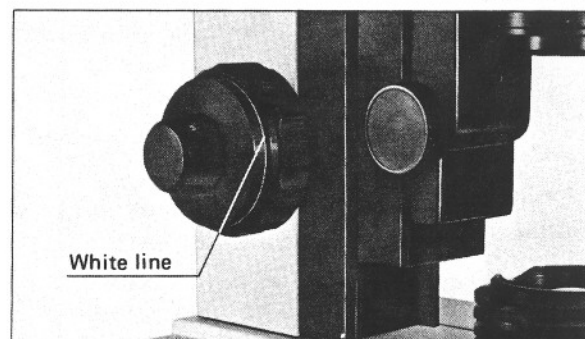

Fig. 21
- 4) The range of the fine focus knob is 2.2mm. The white line on the fine focus knob shows the center of the fine focusing range. It is necessary beforehand to position the white line on the fine focus knob opposite the end of the coarse focus knob. (Fig. 21)
10. Oil-immersion observation (Fig. 21)